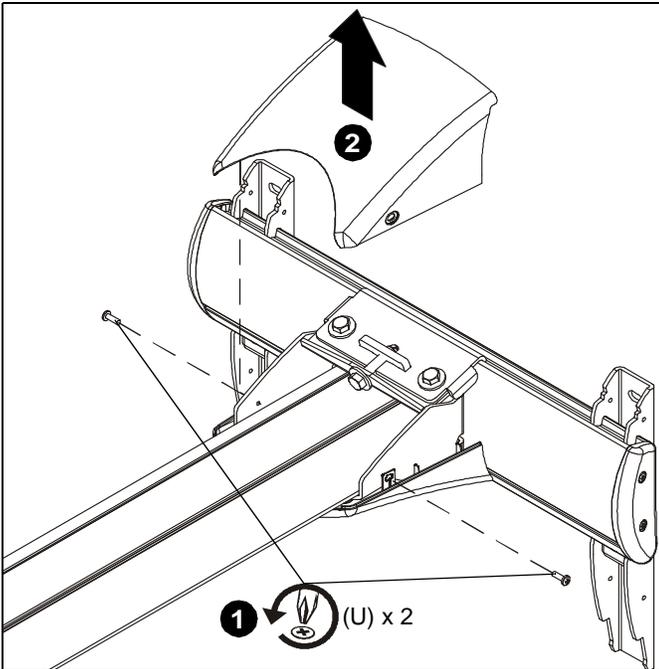

Figure 23
1. Remove and save two 8-32 x 1/2" Phillips pan head screws from upper cover. (See Figure 23)
2. Raise upper cover away from the mount. (See Figure 23)